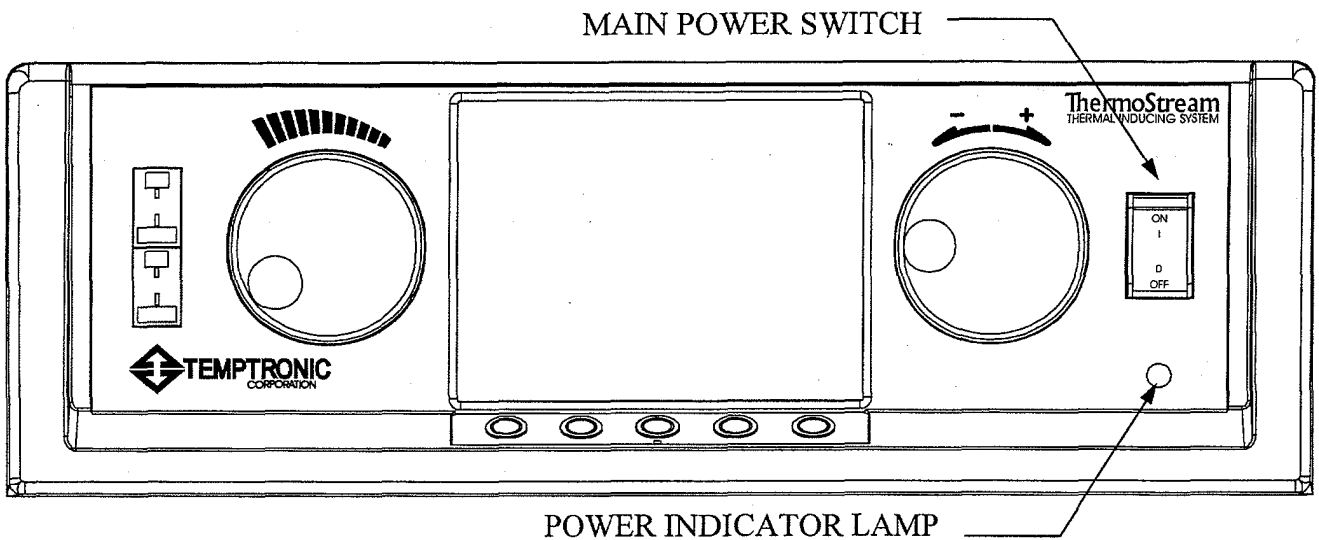

Figure 2-1 Main Power Switch
Figure 2-1 shows the Main Power Switch which is located on the right hand side of the front panel of the controller. This switch also serves as the primary ~ (ac) power circuit breaker (CB1) for the system. An IEC 320 connector for receiving the input power cord is located on the rear panel of the controller.
2. Once at the *Top Menu Screen*, actuate the Main Power Switch downward to the **0** (OFF [down]) position to turn off the TP04100A. Note that the power (on/off) indicator lamp should turn off (see Figure 2-1 Main Power Switch on page 9).